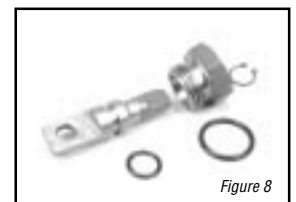

Figure 8
**7** The internal seal may be replaced by first removing the small retaining ring on the end of the bypass valve. Remove and replace the o-rings. (See Figure 8)